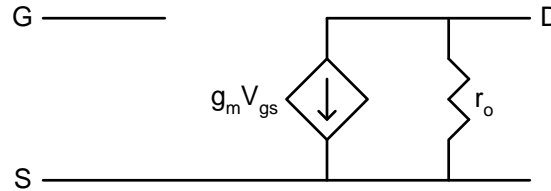

Figure 2
- Transistors M1-M4 can be modeled as a transconductor and output resistor, as shown in Figure 2.